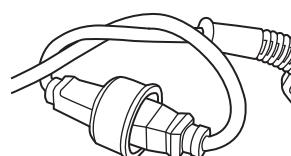

Fig. 3
- NOTE:** If the extension cord does not fit through the cord hole, cross the extension cord over the power cord and connect the plugs (Fig. 3). Proceed to step 4.